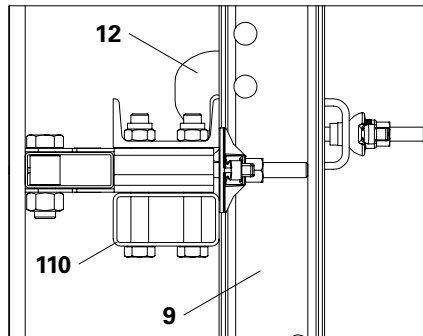

Fig. C4.04a
5. Position the strongback (9) on Formwork Waler 150 CB (110) according to the bracket spacing, and secure. Bottom projecting length: see project drawing or Section C1.
6. Mount Waler Fixation U100 – U120 (12) and secure in position by tightening the quick jack nut. (Fig. C4.04a + C4.04b)